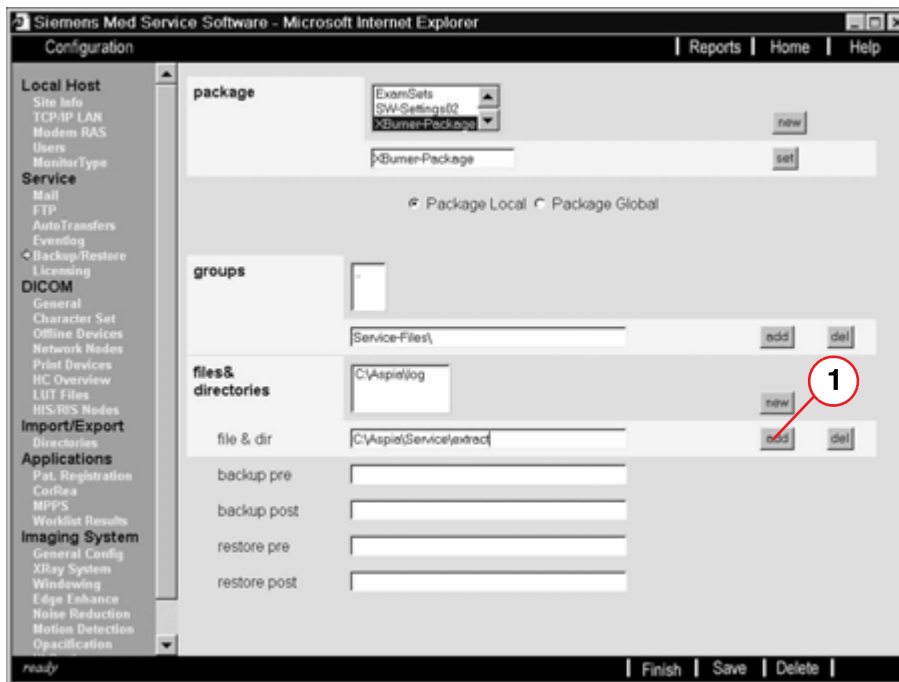

Fig. 118: Service_Backup/Restore_file & dir
- Enter "C:\Aspia\log" under "file & dir" and accept this entry by clicking on the "Add" button (1/ Fig. 118 / p. 126).